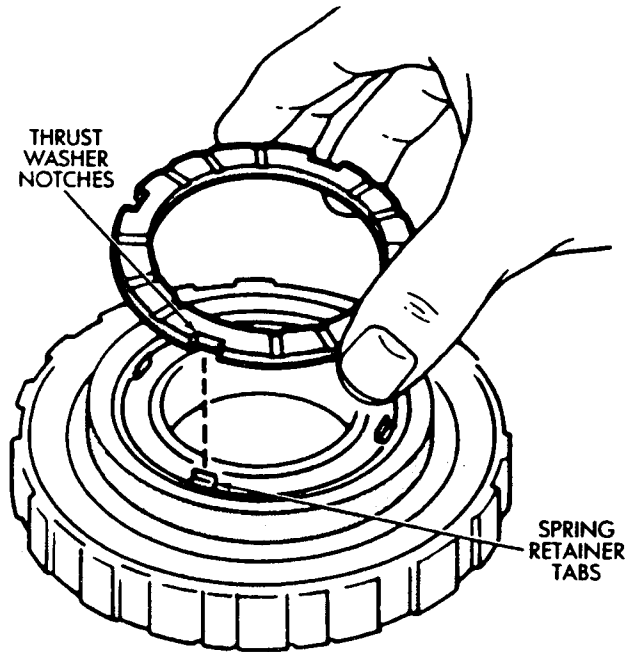

Fig. 8 Installing Thrust Washer
- (5) Coat thrust washer with petroleum jelly and install it in drum. Be sure washer notches are aligned with tabs on spring retainer (Fig. 8).
- (6) Set brake components aside for final assembly.